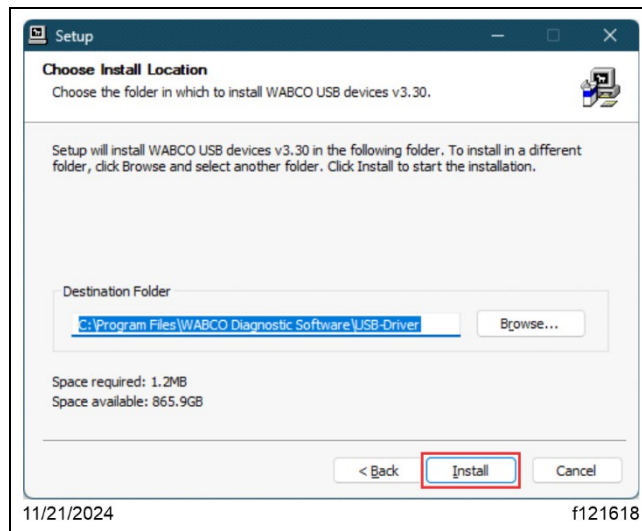

Fig. 41, Choosing the Install Location
7.14. On the 'Choose Install Location' screen, verify the destination folder, then select 'Install.' See Fig. 41.